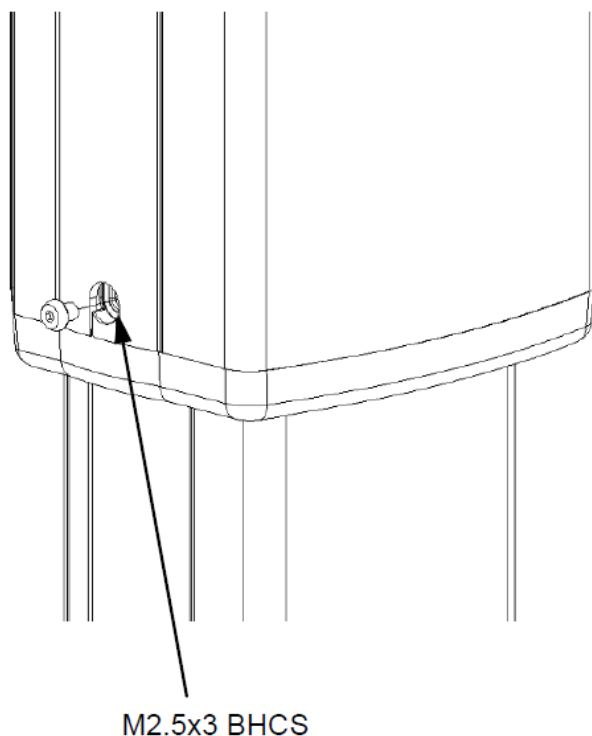

Figure R-1: Removing the Transport Arm Base Cap
2. Remove the Transport arm base cap from the Center Z extrusion by removing the M2.5 Nut shown in Figure R-1.